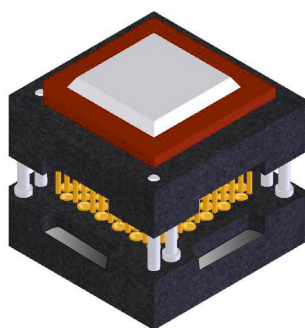

Fig. 13b
- 13.1.2 Push down until the positive stop is contacted. [Figs. 13b and 13c]